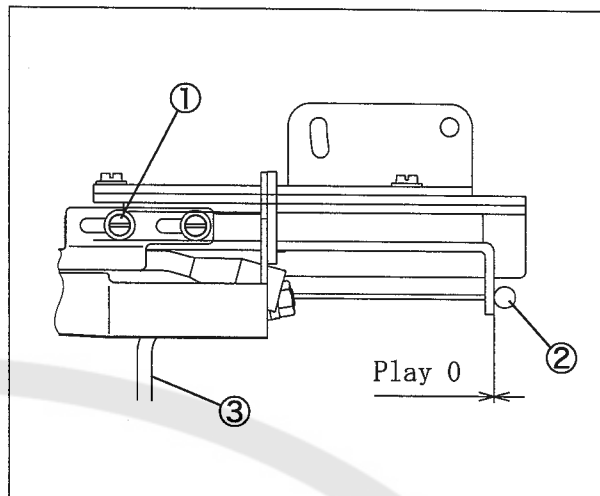

Fig. 9
- Make sure the wire's head ② does not play when the suction pipe C. set ① is in the extreme right position. (Fig. 9)
- Make sure it does not happen that the wire ② and flexible wire pipe bend or make small half circles when they are attached to the table.